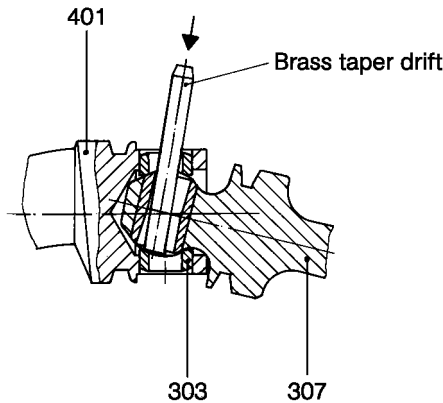

Figure 4: Dismounting the bushes for joint bolt.
- Eject joint bolt (301).
- By means of a brass ejector, drive out half of the two bushes for joint bolt (303). For these purposes, incline joint shaft (307) (please refer to Figure 4 below).